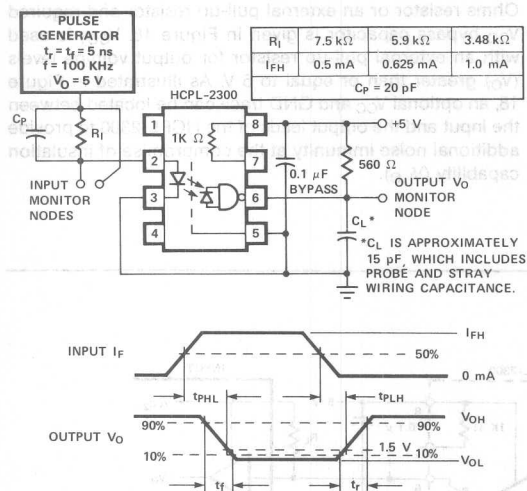

Figure 8. Test Circuit for  $t_{pLH}$ ,  $t_{pLH}^*$ ,  $t_r$  and  $t_f$ .
8.  $C_P$  is the peaking capacitance. Refer to test circuit in Figure 8.